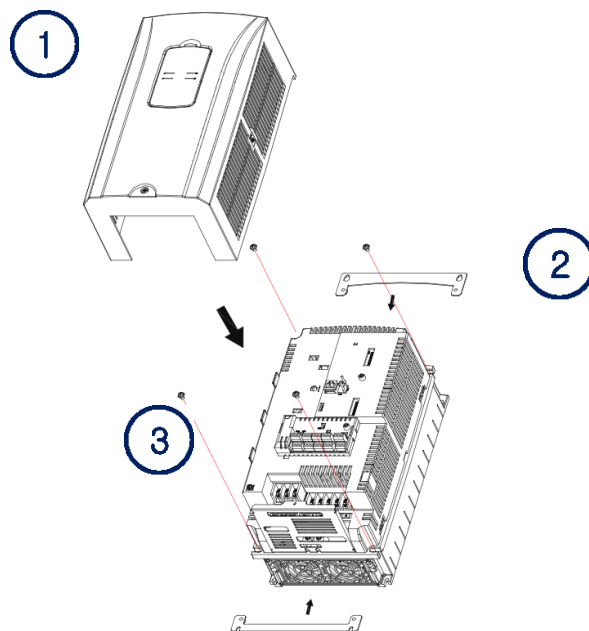

Figure 1. 0.75~7.5kW Flange Install and Side View
① Remove the Top Cover.
② Insert the Flange Option to fit on the product by fastening the top/bottom positions as shown in Figure 1.
③ Using the included bolt, tighten to the specific torque.